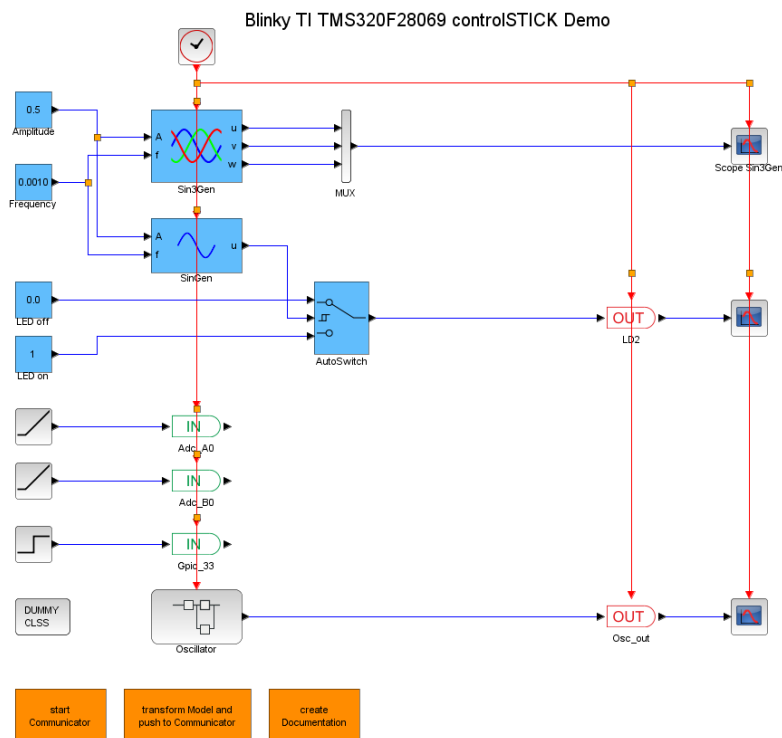

Figure 14: *Blinky* demo application in *Scilab/Xcos*
2. Double click on **DemoApplication.zcos**. The example project contains a few blocks used to demonstrate the basic function of X2C (see Figure 14). The *Inport* and *Outport* blocks define the interface between the generated X2C code and the peripheral functions (e.g. ADC or GPIO Pins) on the target. For details about each block function read *X2Copen.Doc.pdf* in the documentation folder of the X2C directory.